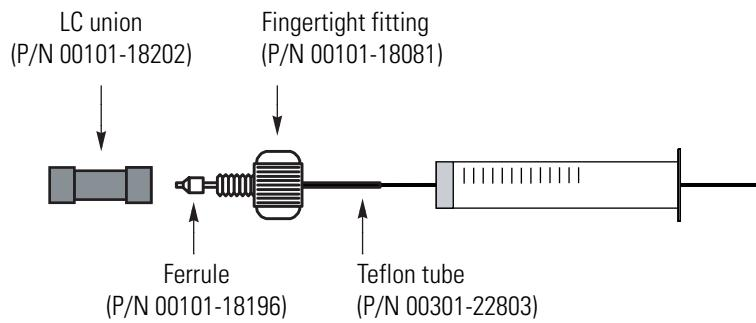

Figure 37. Plumbing connections for the syringe.
- The LC union has coned-bottom, 10-32 receiving ports. Figure 37 shows the suggested fittings for connecting the syringe to the LC union.